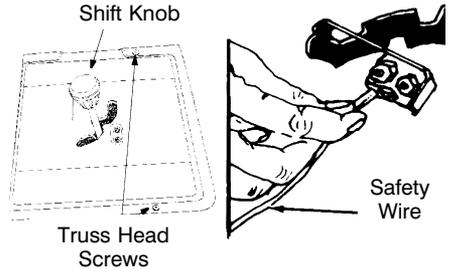

FIGURE 22
**NOTE:** Figures 22 through 24 are shown with the unit tipped up for clarity. It is not necessary to tip the unit to remove the belts.